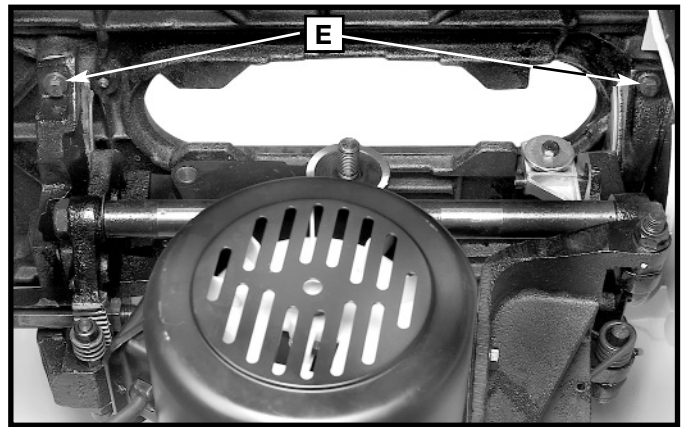

Fig. 37
1. Lower blade. Remove blade guard and table insert. With a 1/2" wrench, slightly loosen the 4 front and rear trunnion mounting bolts. **NOTE:** Two trunnion mounting bolts (E) Fig. 37 are shown as looking up inside side of saw.
3. To check blade alignment, follow section "**CHECKING BLADE ALIGNMENT**" procedure until proper alignment is achieved. Tighten 4 trunnion bolts (E) Fig. 37.
4. Check blade alignment again after tightening bolts to confirm alignment. If alignment is off, loosen the 4 trunnion bolts (E) and repeat the above steps until proper alignment is achieved with bolts fully tightened.